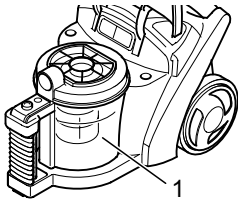

Fig. 17
1. Press the release buttons (Fig. 17) and open the housing cover (Fig. 1/10).
2. Lift the dust container (Fig. 17/1) up out of the cylinder vacuum cleaner.